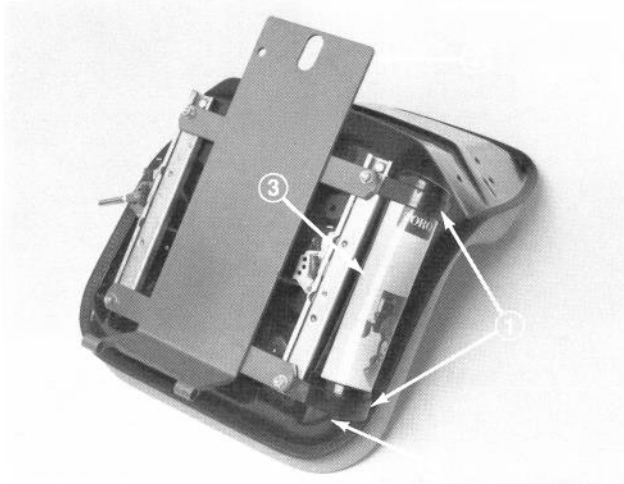

Figure 8
7. Secure (2) R-clamps to right side of seat bottom with (2) capscrews supplied in kit (Fig. 8). Install manual tube into R-clamps, insert manual into tube and place cap over tube end (Fig. 8).